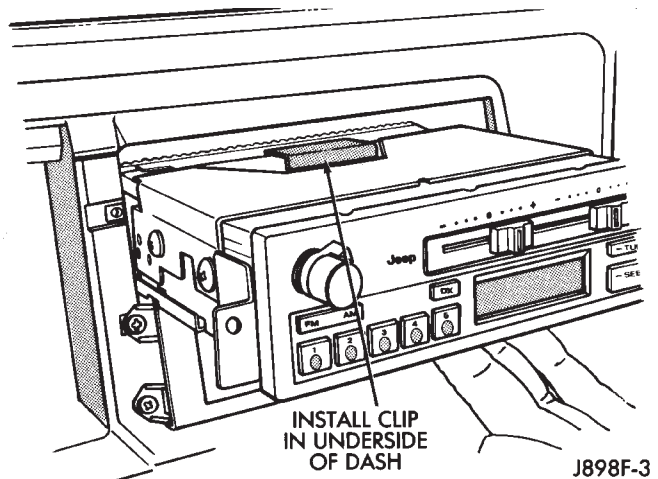

Fig. 4 Install Clip In Underside of Dash RADIO SPEAKERS
- (5) To install radio, route harness above and to the right of the radio cavity. Install the radio making sure that clip on top of radio (Fig. 4) is installed in mating slot of dash.
- (6) Reverse removal procedures to finish installing the radio.